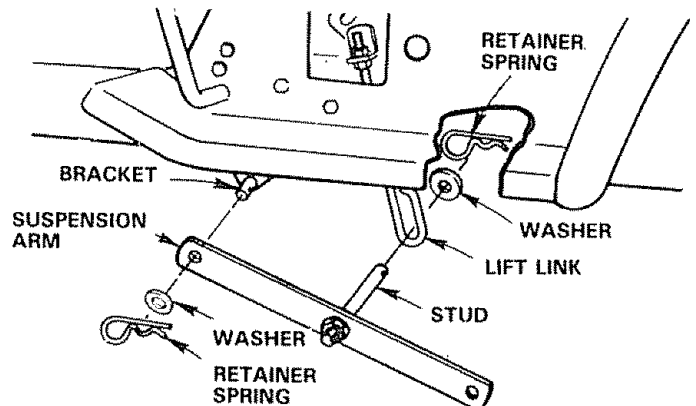

FIGURE 8
- Slide studs through lift links on both sides of tractor (Fig 8) Retain with washers and retainer springs (shown full size on page 6) found in bag of parts
- Place the suspension arms on brackets on both sides of the frame (Fig 8) Retain with washers and retainer springs found in bag of parts.